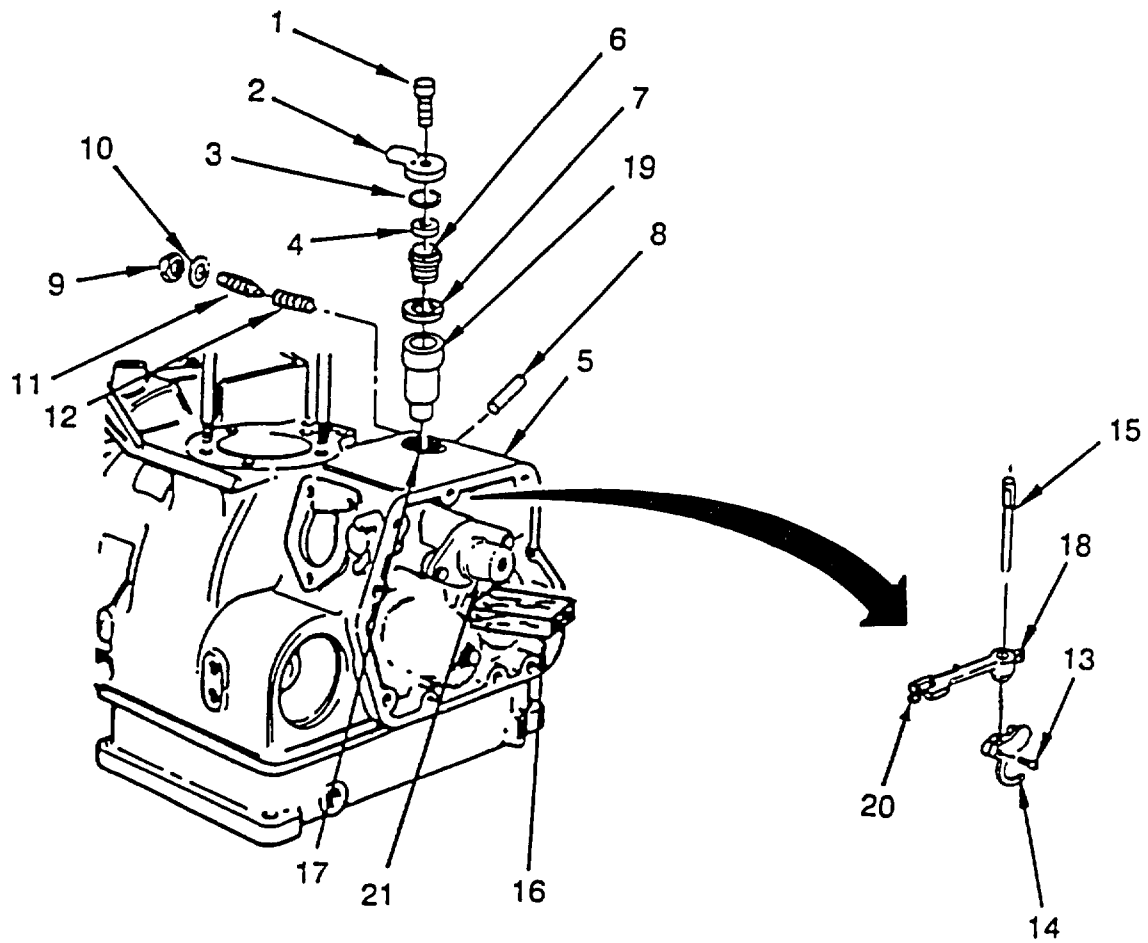

Figure 6-6. Governor Linkage Repair
a. Disassembly. (Refer to Figure 6-6).
- (1) Remove screw (1), breather assembly cover (2), preformed packing (3), and breather flap (4) from crankcase (5)
- (2) Unscrew breather (6) from crankcase (5). Remove breather (6) and washer (7) from crankcase (5).
- (3) Remove plunger (8) from crankcase (5).
- (4) Remove nut (9) and washer (10) from speed adjuster (11).
- (5) Remove adjuster (11) and speeder spring (12) from crankcase (5).
- (6) Loosen socket head screw (13) and remove bracket (14) from shaft (15).
- (7) Lift shaft (15) and place a block of wood (16) under shaft (15). Place hollow tubular drift through hole (17) over shaft (15) on top of operating lever (18) Drive lever (18) off shaft (15). Remove wood block (16)
- (8) Remove lever (18) and shaft (15) from crankcase (5).
- (9) Remove sleeve (19) from crankcase (5)